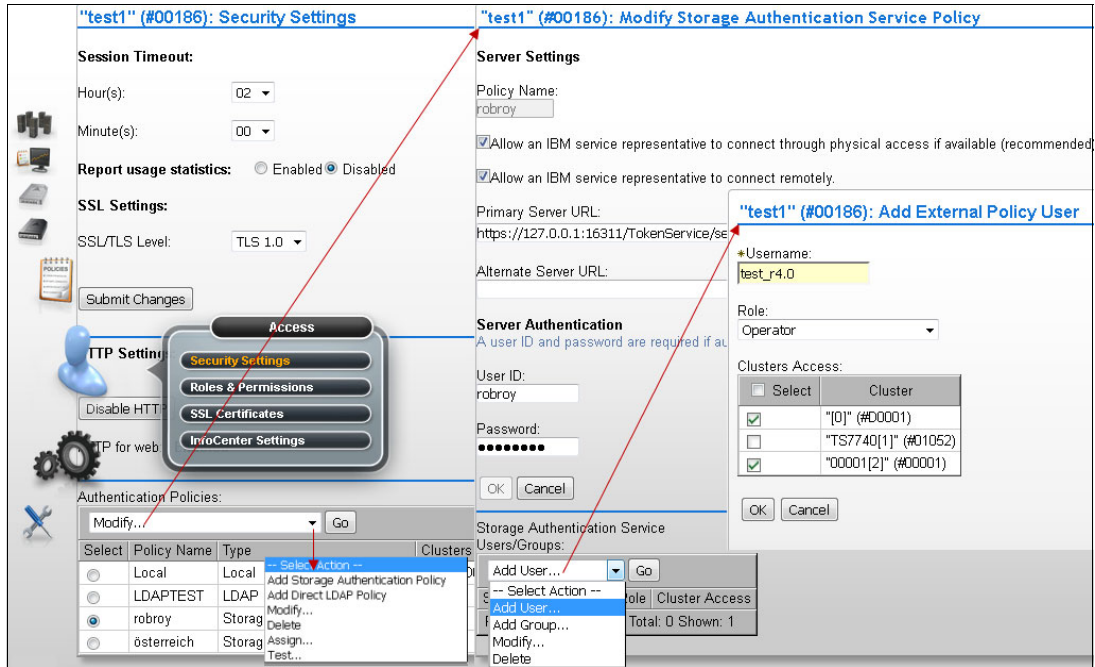

Figure 9-106 Adding a new user to an existent Storage Authentication Service Policy
The Modify Local Account window is shown in Figure 9-106 on page 456. In the Cluster Access table, select the **Select** check box to toggle all the cluster check boxes on and off.
10. Click **OK** after the fields are complete. Figure 9-106 shows the sequence to add a new user to an existing Storage authentication Service Policy.